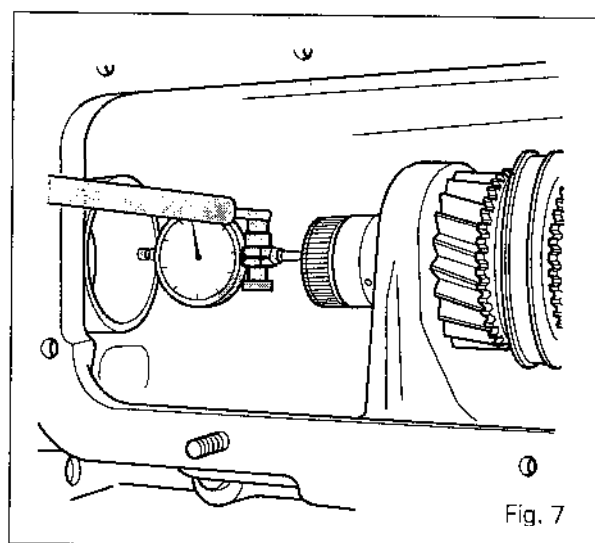

Fig. 7
34. Put the contact end of the dial gauge at the end of the shaft (Fig. 7).